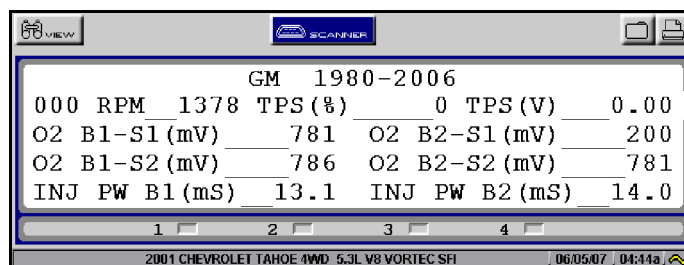

Figure 5-31 Sample Recorded data movie screen
2. Select **Print & Review Movie** and the recorded movie displays (Figure 5-31)